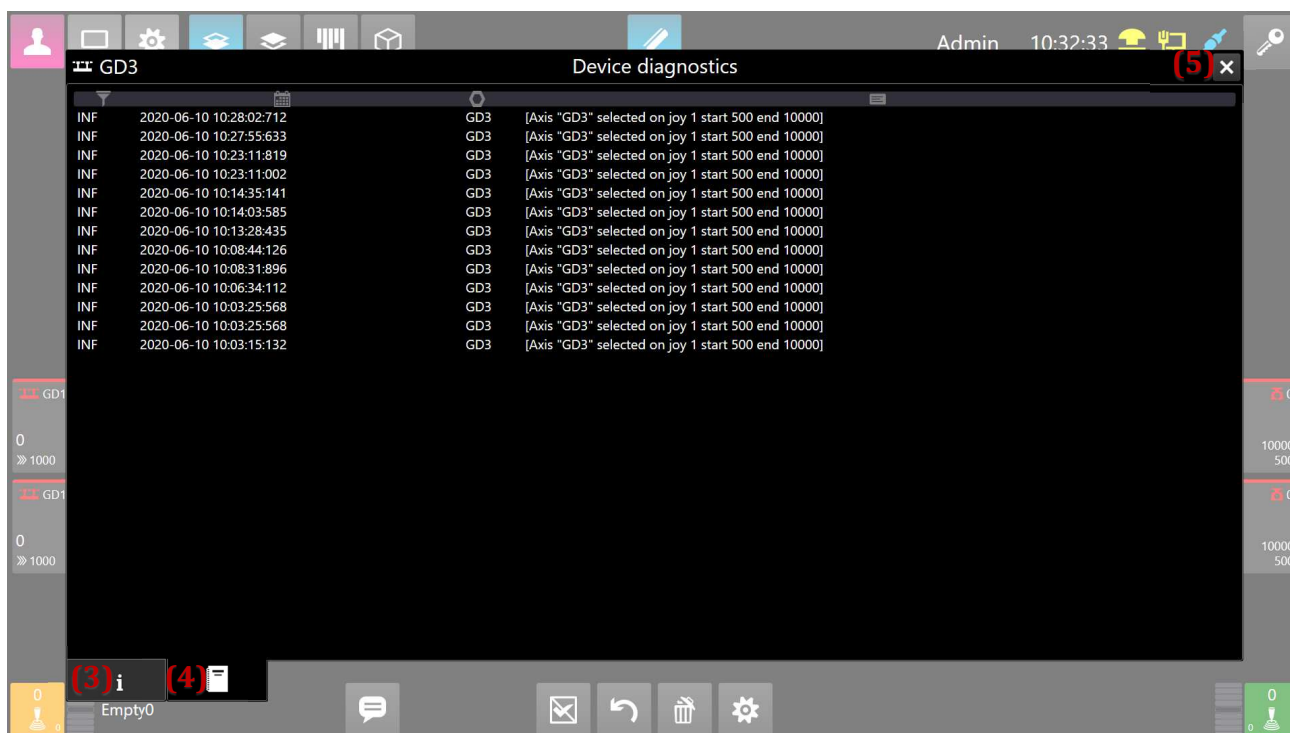

FIG. 50: SYSTEM EVENTS LOG
In the bottom left corner of the screen, two buttons (3) and (4) are located. These buttons are responsible for switching between diagnostic informations and event log bookmark (Fig. 50).
System events log (Fig. 50) can be filtered to show only selected device. Each icon and column is described in the chapter 7.7.